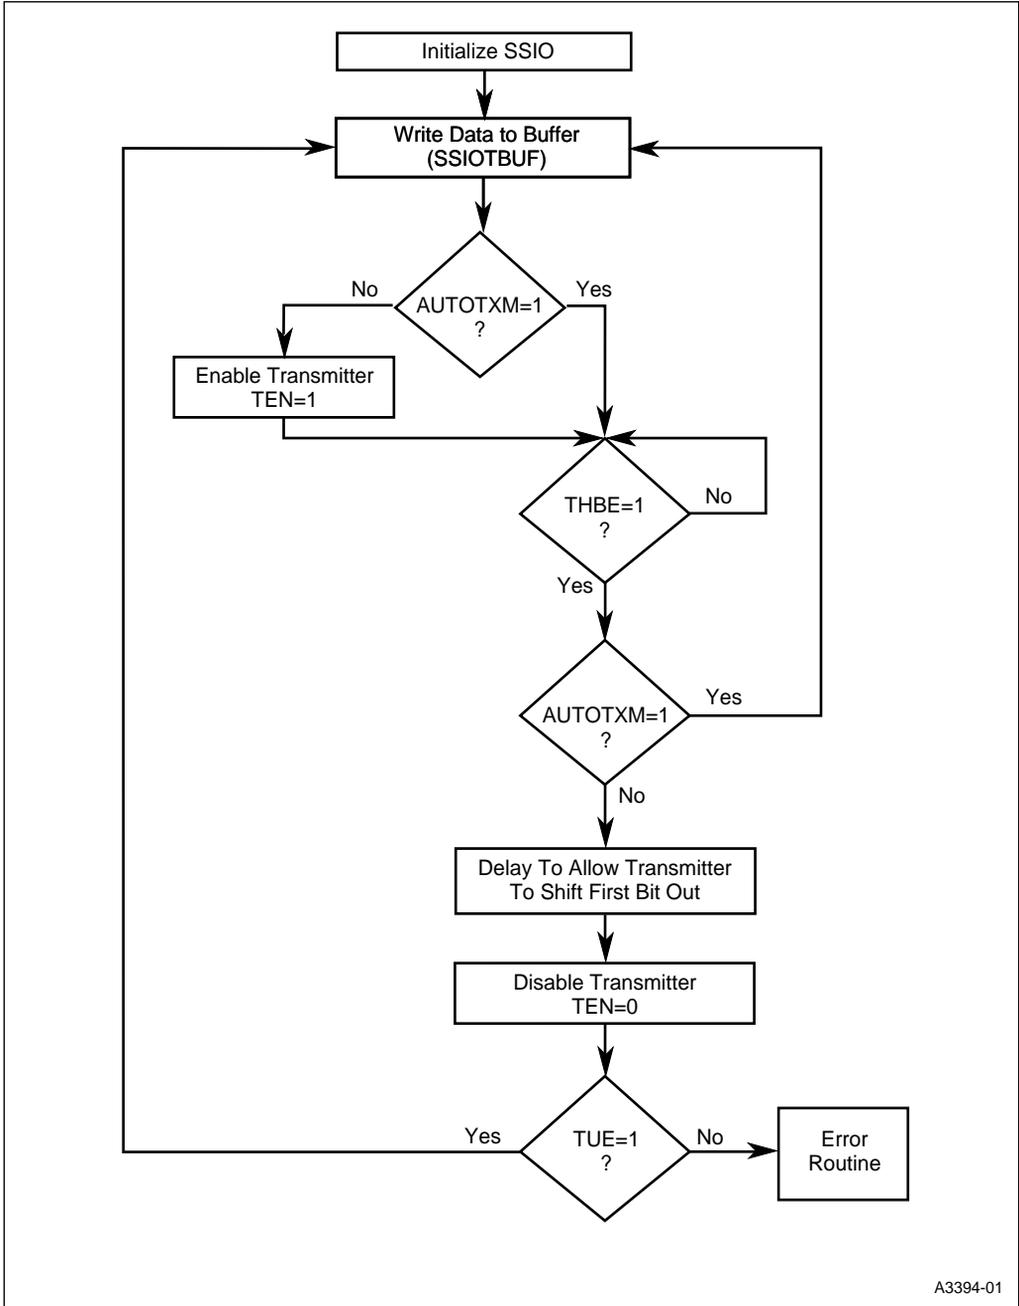

Figure 13-8. Transmit Data by Polling
- Figure 13-8 shows a basic flowchart for using the polling method to transmit data through the SSIO.